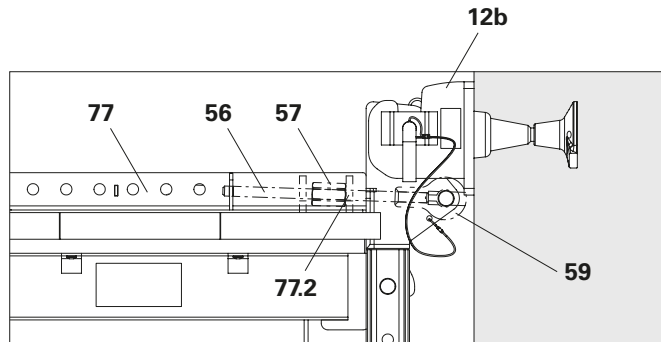
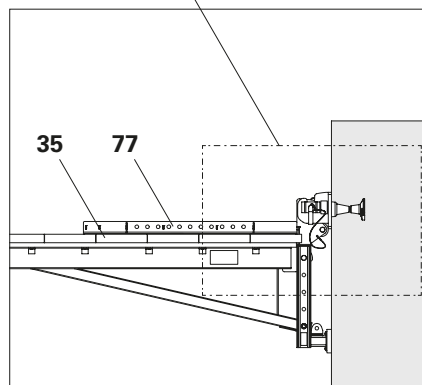

Fig. B5.01c
Fig. B5.01a
1. Screw Tie Rod DW15 (56) into Eye Nut RCS DW15 (59)
2. Screw Hex-Nut DW15 SW30 50 mm (57) into Tie Rod DW15 (56) and adjust to match the required dimension beforehand.
3. Insert Hex-Nut DW15 SW30 50 mm (57) into Formwork Support VGK 60 (77) and screw in until contact is made with the front plate (77.2).
4. Fasten Formwork Support VGK 60 (77) to the planking (35) with wood screws. (Fig. B5.01a – Fig. B5.01c)